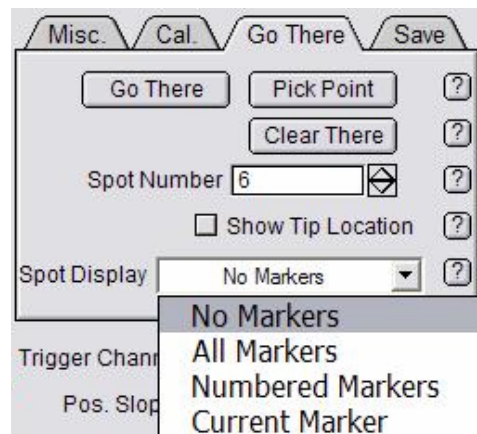

Figure 28: 'Go There' Force tab
- ✓ Use the 'Go There' tab in the Force tab (Figure 28);